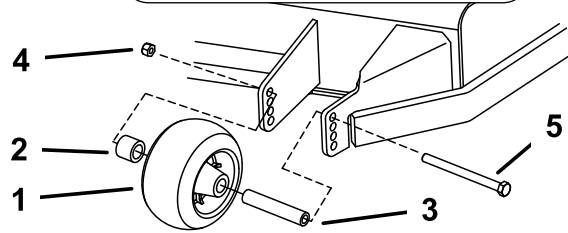

**Figure 19**
- C. The length of the rear deck support link assemblies average 197 mm (7.76 inches or approximately 7-3/4 inches) from the center of the balljoint to the center of the farthest hole (see Figure 19).